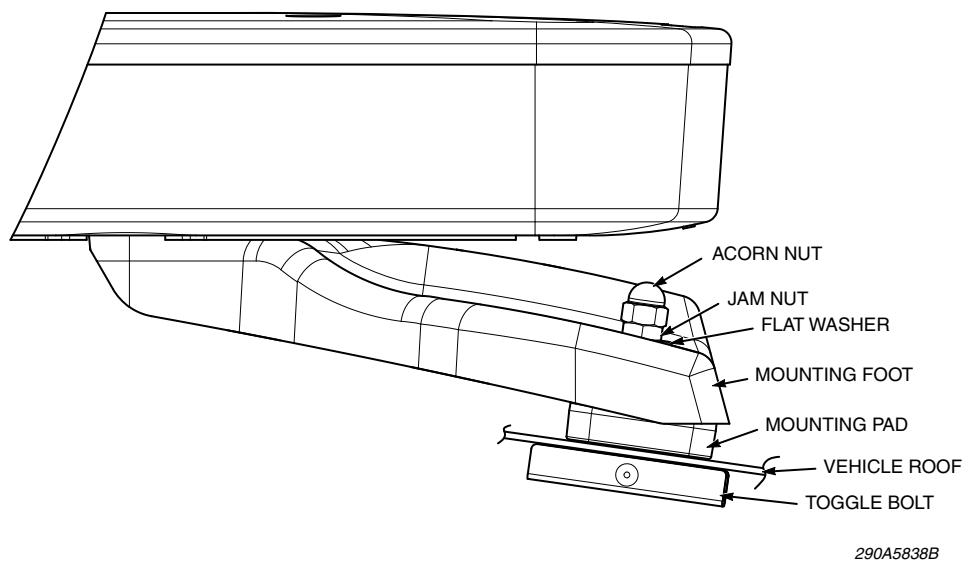

Figure 3: Lightbar attached to vehicle roof
7. Saw off the toggle bolts 3/16 inch above the jam nuts and screw the acorn nuts onto the bolts. The lightbar should now be securely anchored to the roof (Figure 3 on page 4).